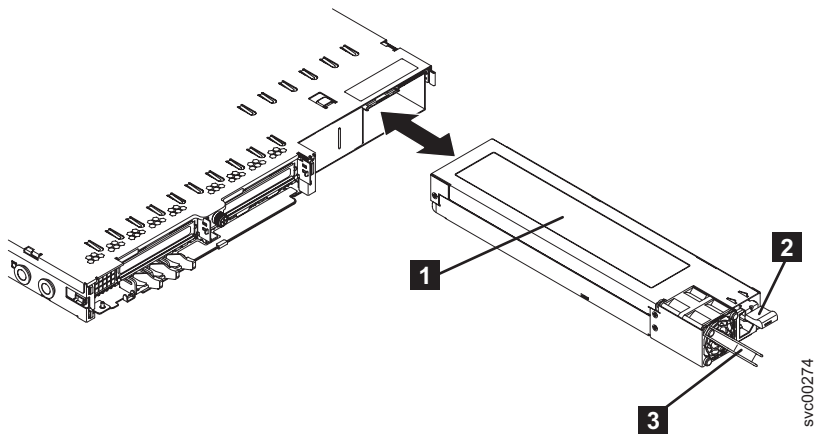

Figure 162. SAN Volume Controller 2145-8G4 power supply
1. Grasp the handle on the rear of the power supply (shown in Figure 162) and slide the power supply forward fully into the node until it clicks in place.